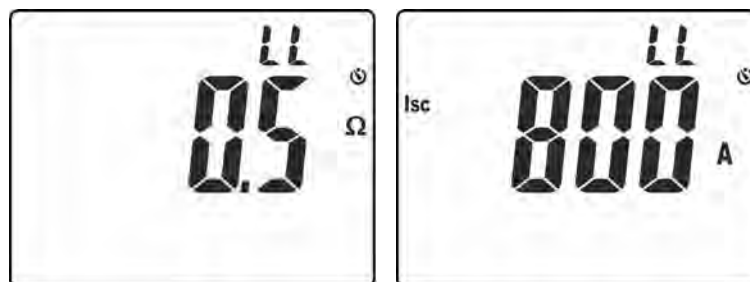

Fig. 28: Results of Loop L-L impedance measurement
12. The screen in Fig. 28 – left side, shows the value of Loop L-L impedance. Press keys  $\blacktriangledown / \text{H}$  or  $\blacktriangle$  to display the value of the assumed short-circuit current **Isc** (see § 9.3)